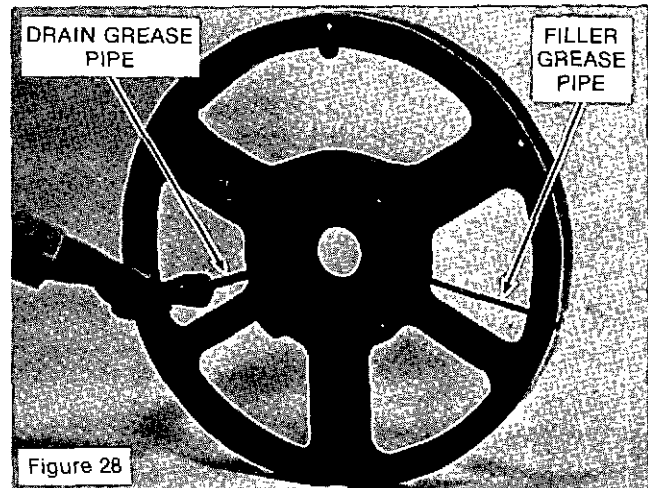

Figure 28
1. Remove the filler and drain grease pipes and the grease plugs from the bracket. (See Figure 28.)